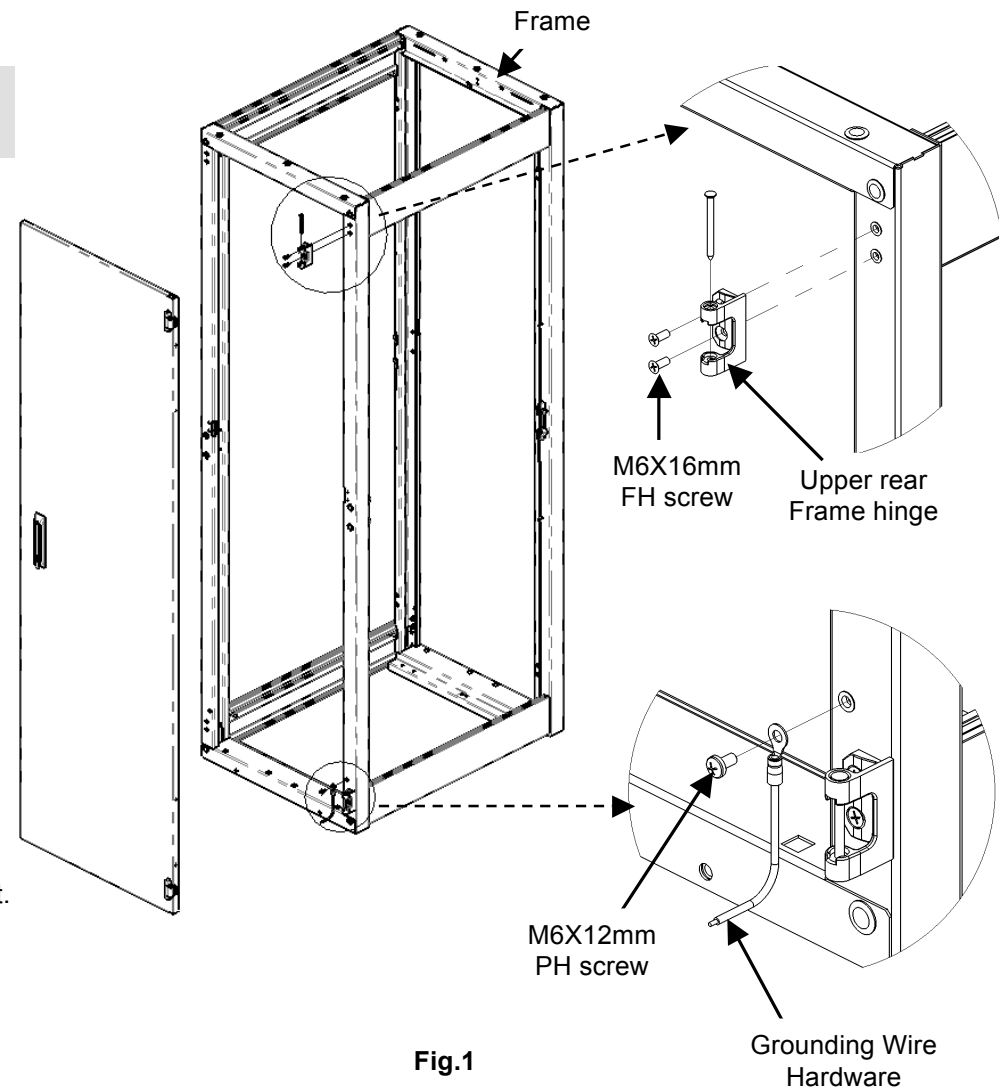

Fig.1
2. Attach the hinges to the frame using two M6 flathead screws per hinge (Fig. 1).
3. Using the M6 PH screw, attach the end of the bonding jumper wire with the ring terminal to the frame threaded insert nearest to the bottom door hinge. Orient ring terminal as shown (Fig. 1).